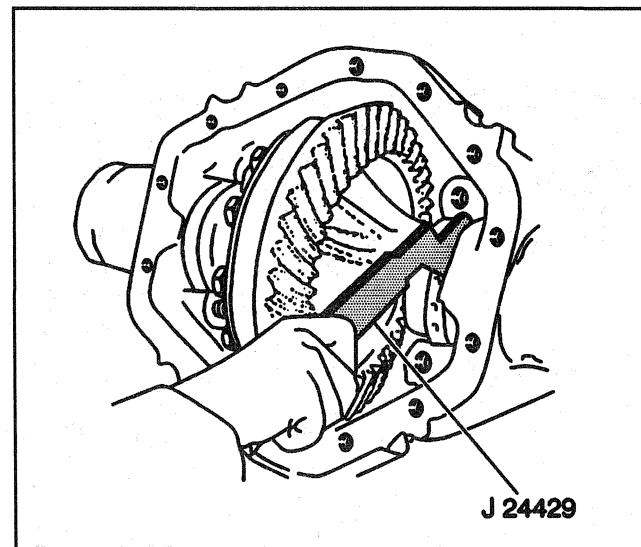

Figure 22—Adjusting the Nut
- B. Turn the adjusting nut until the nut contacts the shim. Then tighten the nut three additional slots (Figure 22).